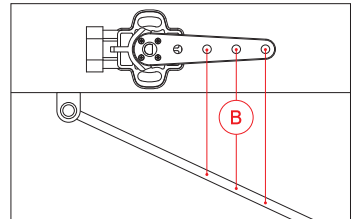

Fig. 7: Coupling rod attachment point
2. Reconnect the air line and apply sufficient air pressure to the air bellows until the chassis is at its upper end stop. Now measure the distance [B] from the sensor arm to the selected coupling rod attachment point again (Fig. 7). The difference between the two measured values gives the maximum travel [C].